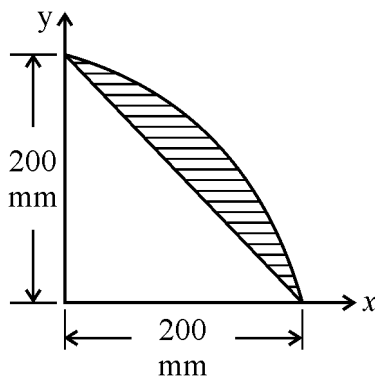

Fig. 5
- Find the centroid of shaded area of a lamina shown in Fig. 5.